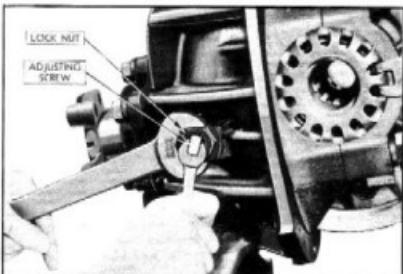

Fig. 30—Ring Gear Thrust Pad Adjustment
- Install the thrust pad and tighten the screw until the bronze tip lightly engages the back of the ring gear while rotating gear. Back off the screw one twelfth (1/12) of a turn and then tighten the lock nut, making sure the screw does not turn during the locking process. This will provide .005" to .007" clearance, Fig. 30.